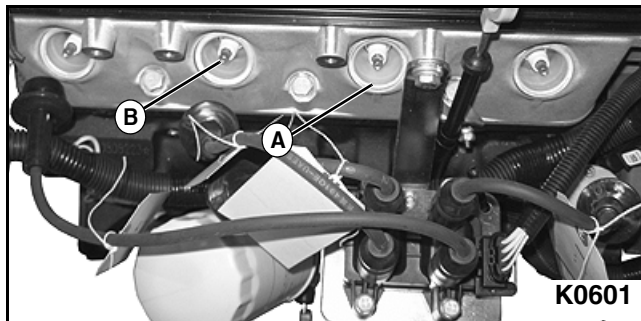

Figure 3-24
2. Clean the inside of the spark plug tubes (A). See Figure 3-24.
3. Using a spark plug socket, remove spark plugs (B) from cylinder head by rotating spark plug counterclockwise.